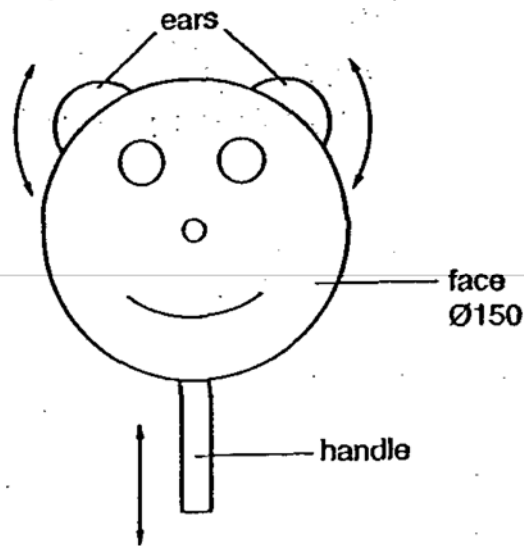

Fig. 3
- 3 Fig. 3 shows a child's hand-held toy. When the handle is pulled and pushed the ears move as shown.
- (b) On Fig. 3 label the INPUT motion and the OUTPUT motion. [2]
- (i) how the ears could be made to move as shown in Fig. 3